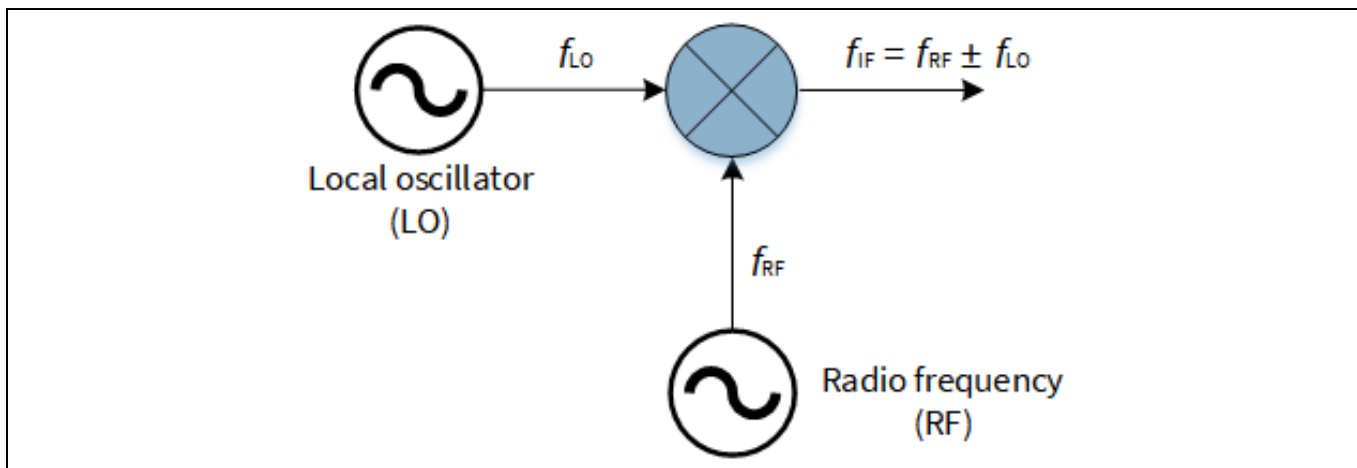

Figure 3 Basic function of a mixer
Mixers are among the most necessary circuit elements in wireless communication, radar, radio, sensors, and all circuits where there is a need to move a band of the signal from one center frequency to another. A mixer is a three-port device that has two inputs and one output port. In the simplest way, it creates output with a frequency that is either the sum of or the difference between the two input signals. The basic function of a mixer is shown in Figure 3. RF and local oscillator (LO) are inputs for the mixer, and the intermediate frequency (IF) is either the sum of or difference between the RF and LO frequencies.